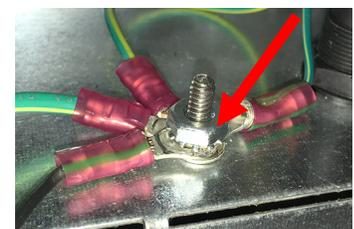

Figure 16
14. Re-attach the nut to the ground lug, ensuring it is tight (see Figure 16).